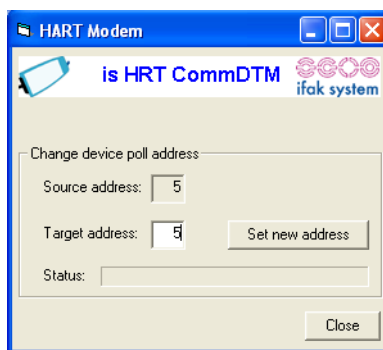

Figure 63. Change Device Address
2. Select the online device for which the poll address has to be changed, and click **Change Device address**. A screen, similar to the one shown in Figure 63 is displayed.
3. In the Slave Configuration dialog, see Figure 63, enter the target address and click **Set New Address**.